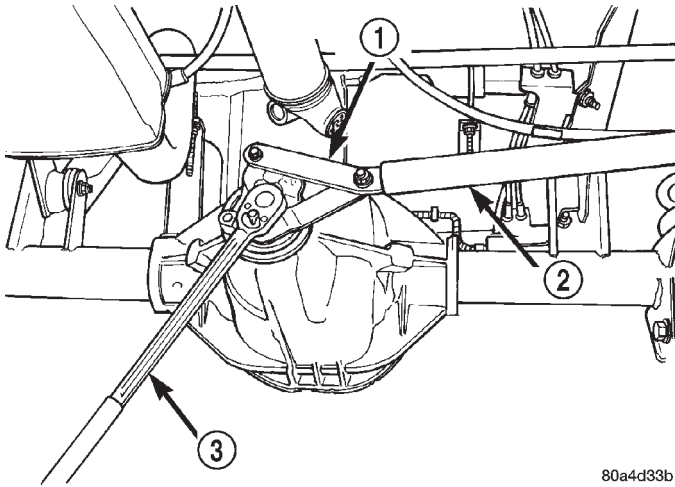

Fig. 17 Tightening Pinion Nut—Typical
(9) Using yoke holder 6958 and a torque wrench set at 474 N·m (350 ft. lbs.), crush collapsible spacer until bearing end play is taken up (Fig. 17).